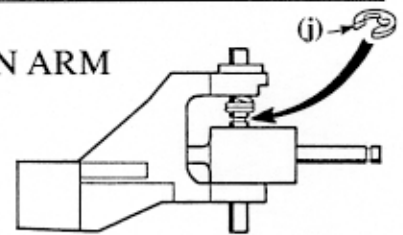

fig. 2
STEP 3 Raise the spring with your fingernail or small screwdriver and install an "e"-clip (j) (fig. 2) above the steering block (g) in the top groove of the kingpin (i).